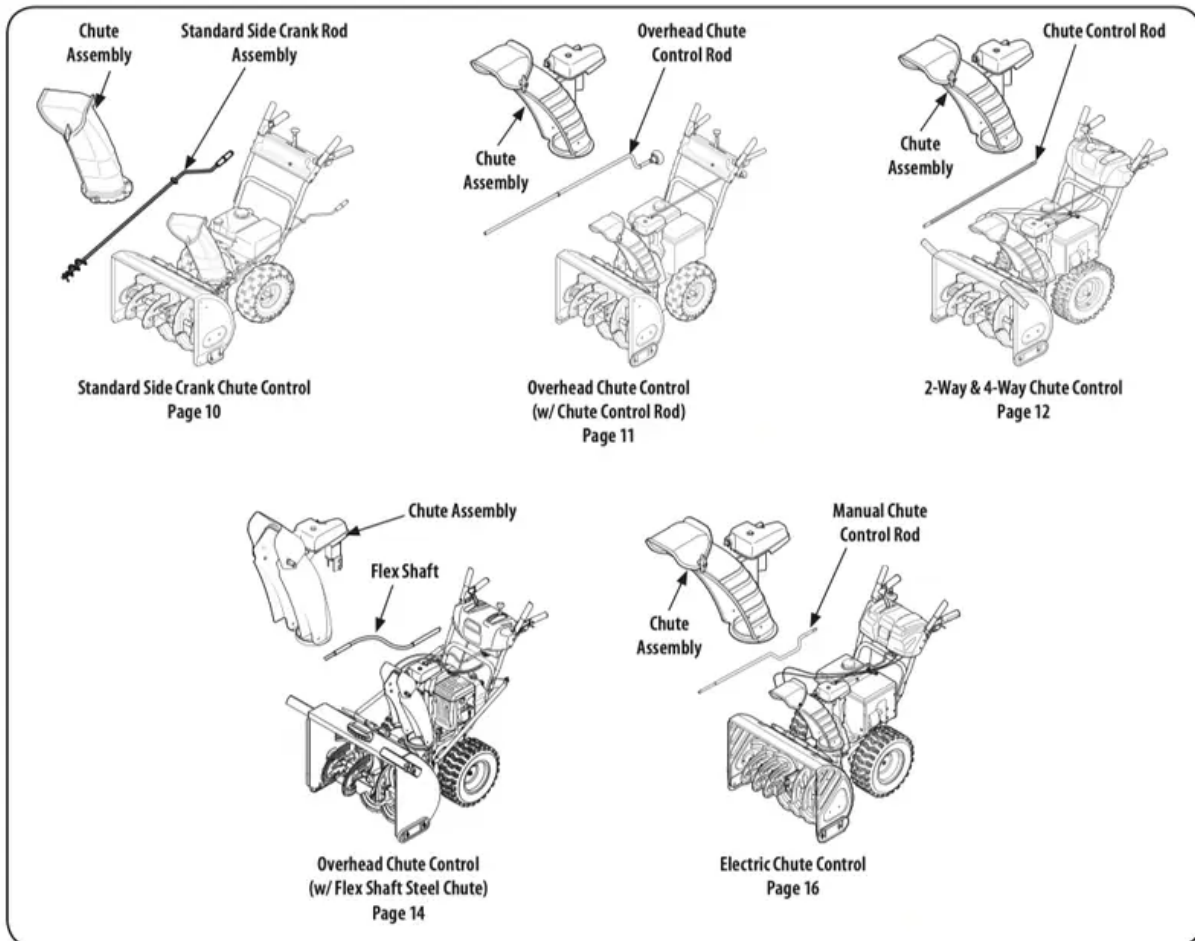

Figure 1
**NOTE:** This Operator's Manual covers several models. Features may vary by model. Not all features in this manual are applicable to all models and the model depicted may differ from yours. Refer to Figure 1 which shows the different versions and match the contents of carton (chute and directional control rod/flex shaft) to identify your specific unit.
Refer to Figure 1 and proceed to your applicable chute style.
Refer to Figure 1 to identify your applicable chute style and continue to Chute Assembly Options (page 9).
Refer to Figure 1 and proceed to your applicable Chute Control Style on pages 10-17.